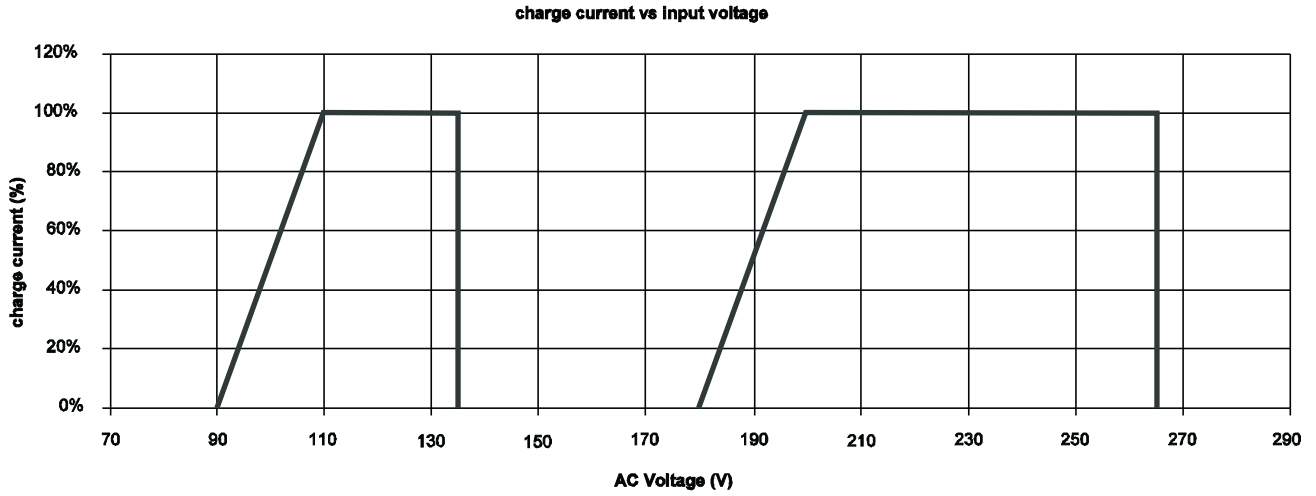

Figure 9: Charge current versus input voltage
Low AC input voltage. At lower AC-input voltages the charge current is reduced. See figure 9	Check AC-input voltage.
** See also figure 9.
** See also figure 9